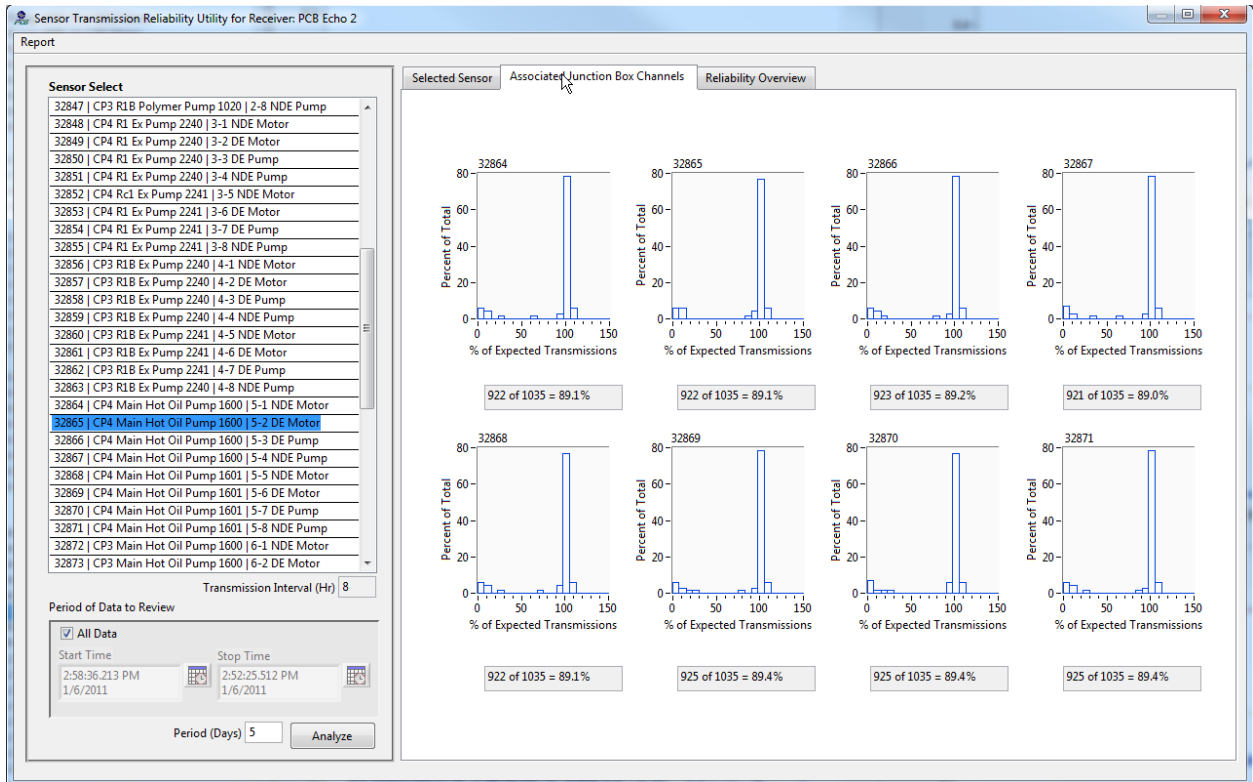

Figure 88 – Echo® Sensor Transmission Reliability Utility – Associated Junction Box Channels Tab
- **Associated Junction Box Channels Tab** (Figure 88) – This tab is only displayed if the sensor being analyzed is a junction box channel. This tab contains histograms and the overall transmission statistic for all channels on the selected sensor junction box. This is the same data that is shown for the selected sensor on the bottom graph of the **Selected Sensor** tab